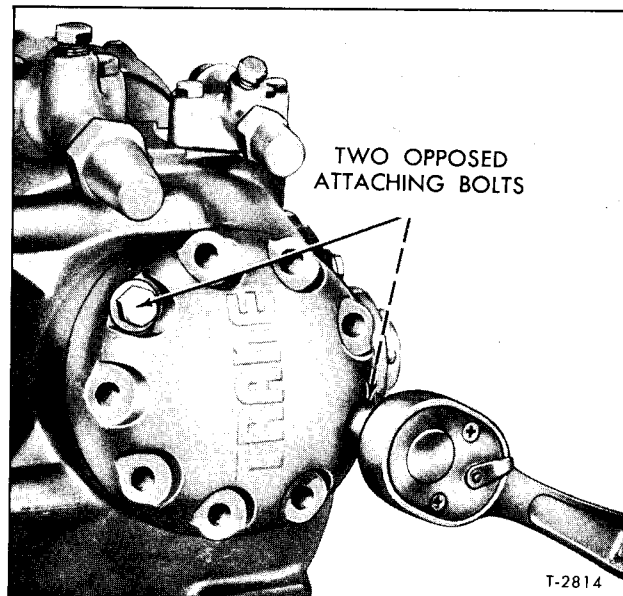

Figure 31—Removing Cylinder Head Cover
1. Remove all but two opposed cylinder head attaching bolts. Back off remaining bolts two or three full turns (fig. 31).